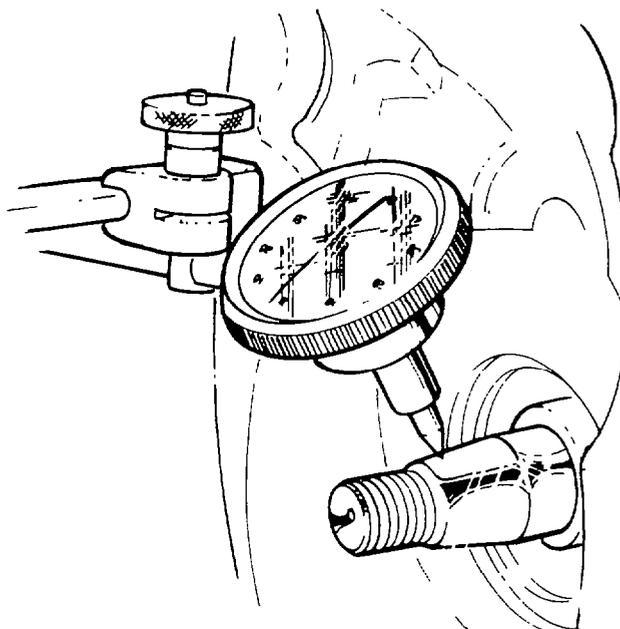

Fig. 108 — Checking Camshaft Runout.
- ak. Ensure proper seating of the end plate (item 43) in the housing bore and install the screws (item 42). Torque the screws to 17.0 – 18.4 Nm (150 – 160 lb.in.).
- al. With the camshaft (item 6) held firmly against the front bearing, visually check the alignment of the tappet roller and camshaft lobe through the supply pump bore. If not centred, add or remove shims (item 3) between the front bearing plate (item 2) and the bearing outer race.
- am. Using a dial indicator, as shown in fig. 108, check to make certain that the camshaft runout at the small end of the taper does not exceed 0.13 mm (0.005 in.) for both ends of the camshaft. If necessary, replace parts as required to obtain acceptable runout.